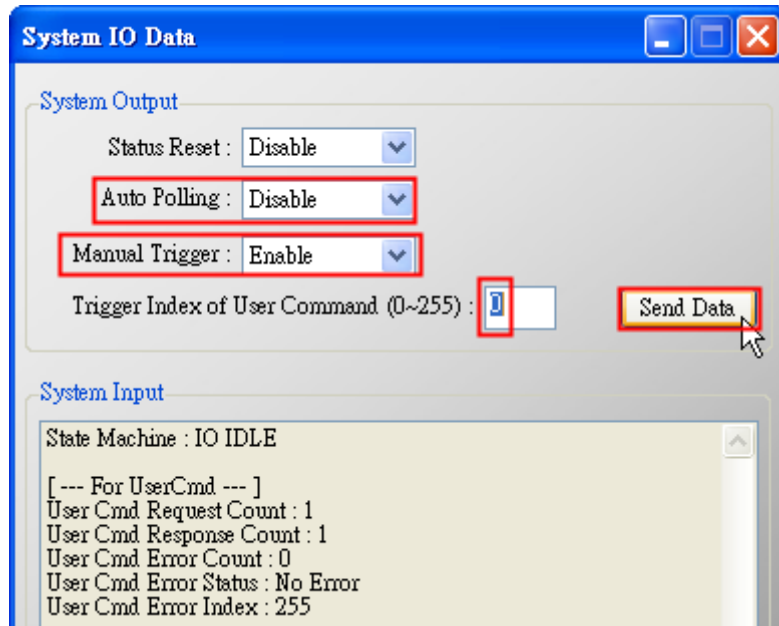

Figure 12-6 The “I/O Data” screen of System
- (4) Right click on the "System" item and choose the "Basic Operation".
- (5) After finish the below settings, click "Send Data" button to send the UserCMD(6) to HART device. (Figure 12-6)
- [3] "Trigger Index of User Command" field => Input "0" (UserCMD(6) Index)